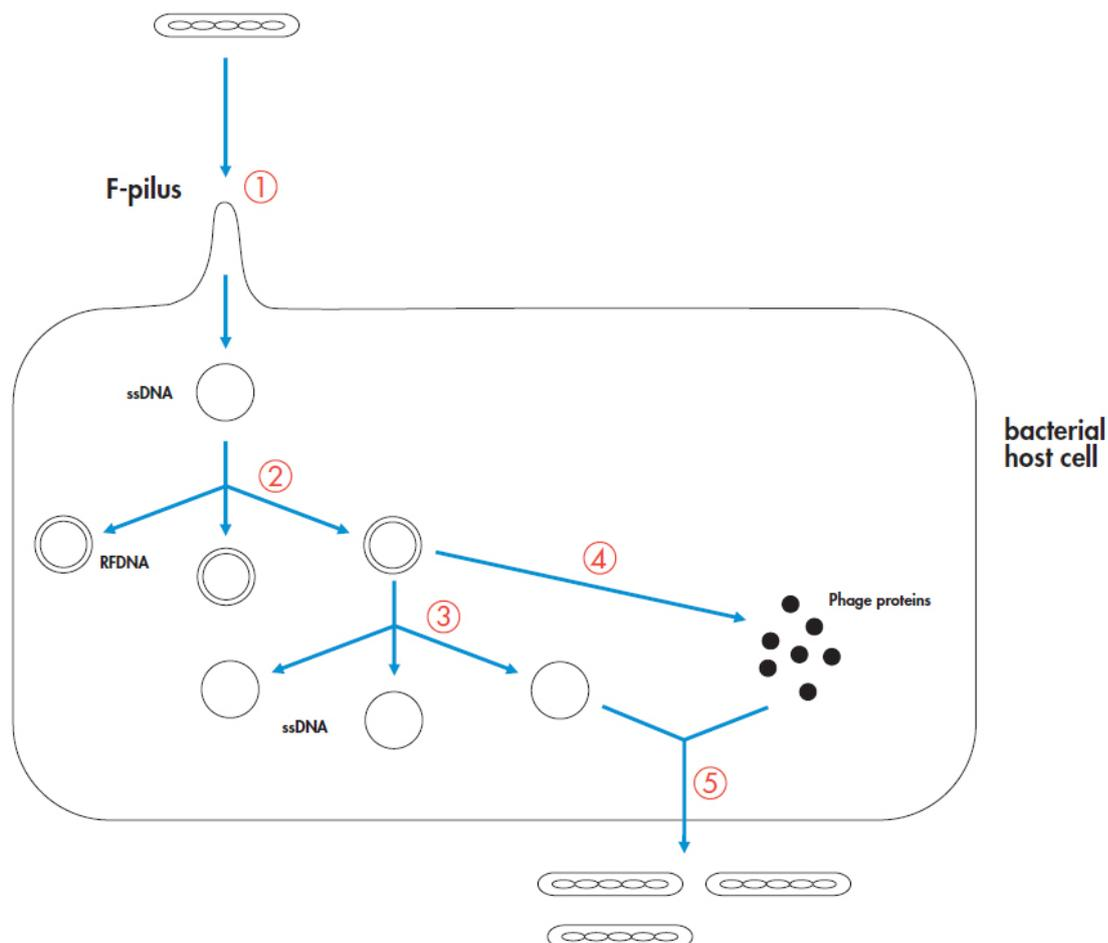

Figure 2. M13 life cycle.
M13 is a male-specific single-stranded filamentous bacteriophage of *E. coli*, that infects its host via the F-pilus (Figure 2, step 1). Upon entry into the cell, the phage particle is stripped of coat proteins, and its circular single stranded DNA molecule is converted into double-stranded replicative form (RF) (step 2). Replication of this form generates about 100 double-stranded copies, from which new single-stranded DNA (step 3) and phage proteins (step 4) are synthesized. The single-stranded DNA is packaged and phage particles are extruded from the cell in a nonlytic manner (step 5). Around 200 mature phages are produced per cell per generation. M13 does not cause cell lysis, but growth of infected cells is slowed down, resulting in turbid plaques on a lawn of uninfected cells.